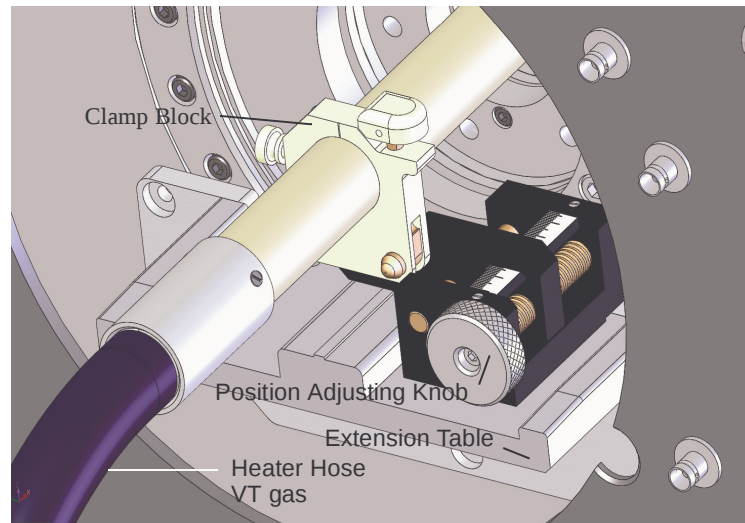

Figure 7. Animal Position Adjustment
9. Rotate the position adjusting knob (Figure 7) to the right of the positioner on the fine positioner assembly, adjusting the position of the animal with respect to the